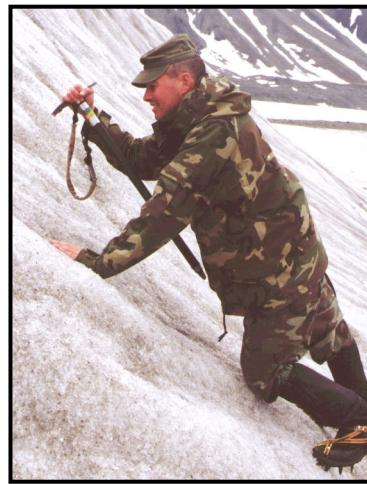

Figure 10-6. Ice ax in the dagger position.
(5) **Dagger Position.** The dagger position is used on steep slopes to place a handhold above shoulder height (Figure 10-6). The hand grasps the head of the ax with the pick forward and the shaft hanging down. The ax is driven into the surface in a stabbing action. The hand is then placed on the ax head for use as a handhold.